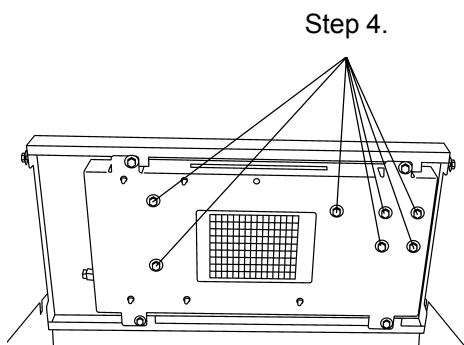

Figure 1
4. Remove the 7 mm screw holding the rear cover, according to Figure 1.
5. Lift up and remove the cover, according to Figure 1.
3. Loosen the two 7 mm screws on the front side of the Cover feeder. Loosen the two 7 mm screws on the rear side of the Cover feeder, according to figure 1.
4. Remove the seven 7 mm screws holding the PWB according to figure 1.